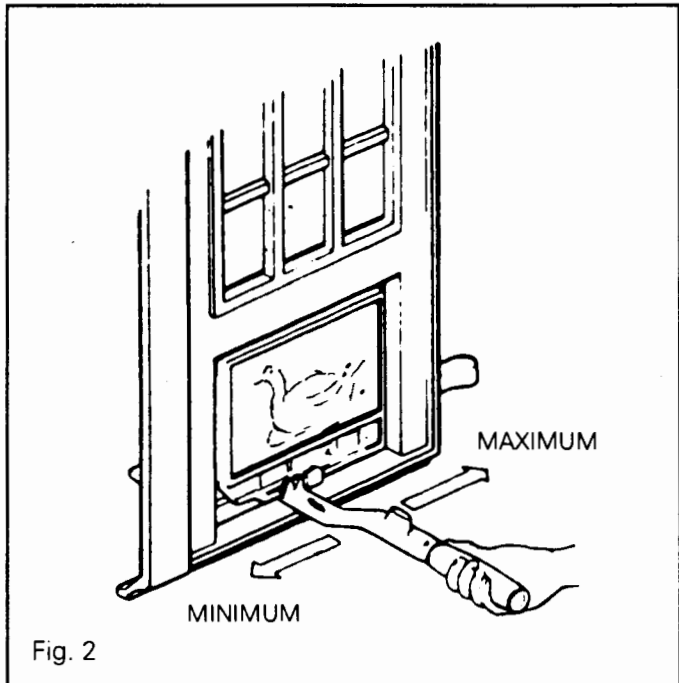

Fig. 2
- f. Adjust the air control slide, Fig.2 to give the desired rate of burning.
Maximum burning rate is obtained with the R.H. air control slide Fig.2 moved as far as possible to the right and minimum to the left with the L.H. air control slide vice versa.
Close or nearly close the air control's slide, Fig.2 by moving them inwards. Experience will indicate the setting that provides the best results with the fuel being burnt.